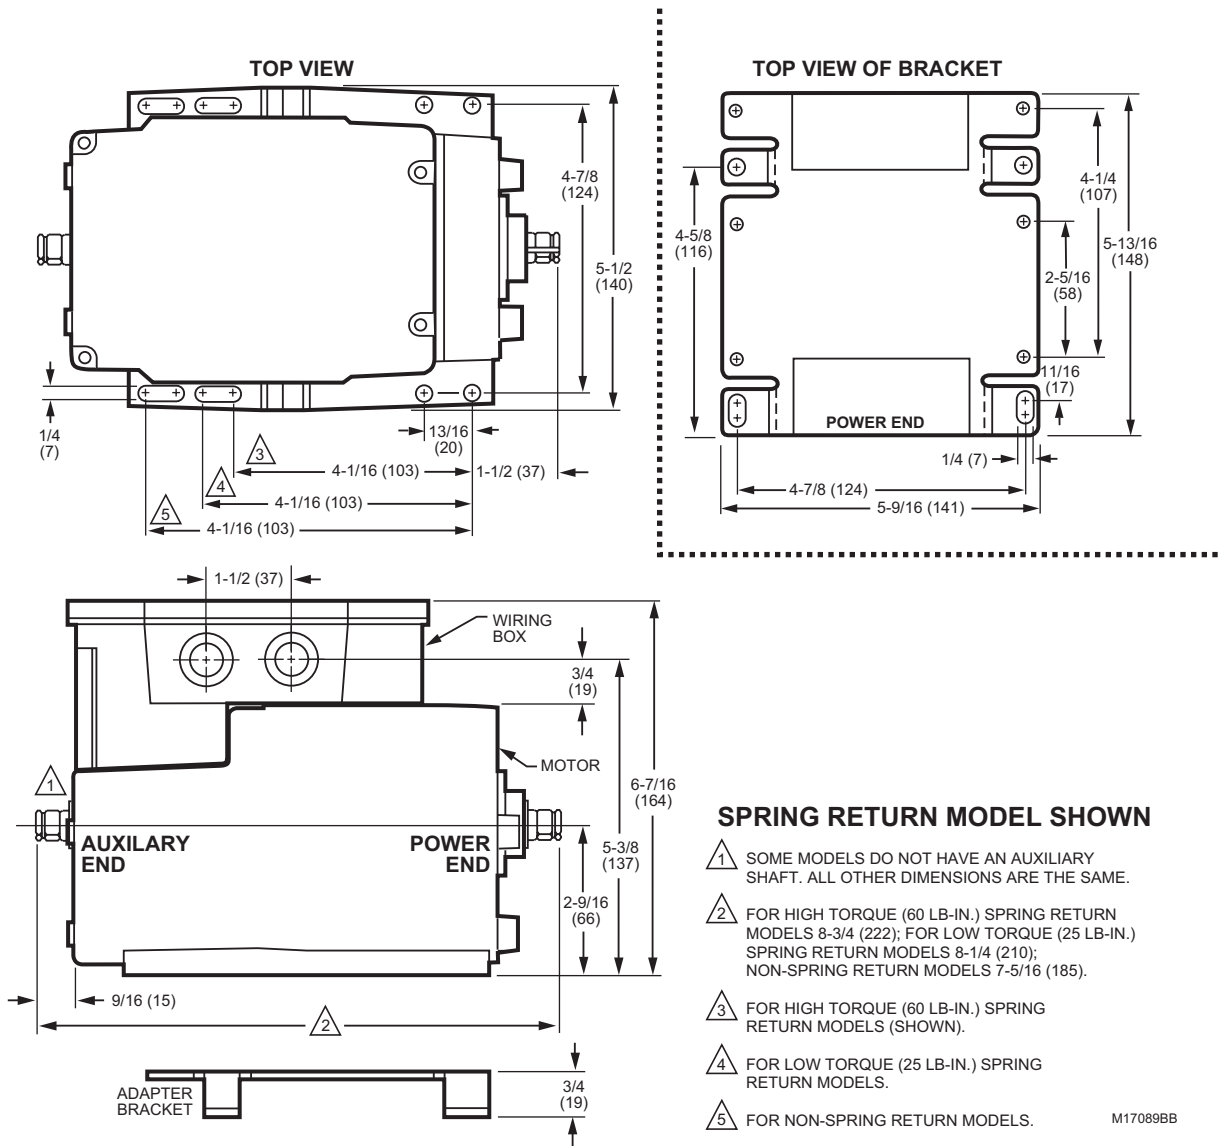

Fig. 1. Modutrol IV Motor mounting dimensions in inches (mm).
**Dimensions:** See Fig. 1.
Allow enough clearance for installing accessories and motor servicing when selecting a location (see Fig. 1). If located outdoors, use liquid-tight conduit connectors with the junction box to provide NEMA 3 weather protection. If mounted outdoors in a position other than upright, install a 4074ERU Weatherproofing Kit and liquid-tight connectors to provide NEMA 3 protection.